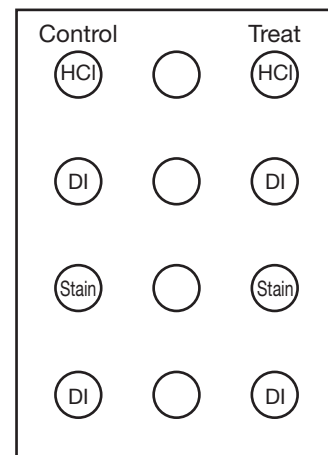

Figure 2. Spot Plate
1. Fill the spot plate as follows: top row with 1 mL of the hydrochloric acid solution, second and fourth rows with deionized water, and the third row with 1 mL of the stain. See Figure 2.